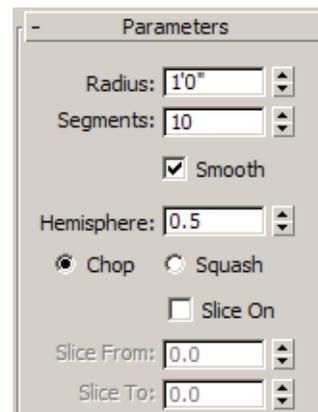

Figure 3-15
5. In the *Create* tab (☀), click  (Geometry). In the drop-down list, select **Standard Primitives** as a sub-category. In the Object Type rollout, click  to create the fixture's globe. Click and drag anywhere on the screen to size a sphere of approximately **1'0"** in radius. Select the *Modify* tab () and assign the parameters, as shown in Figure 3-15. Note the effects that each of them has on the model, specifically the **Hemisphere** and **Smooth** values.